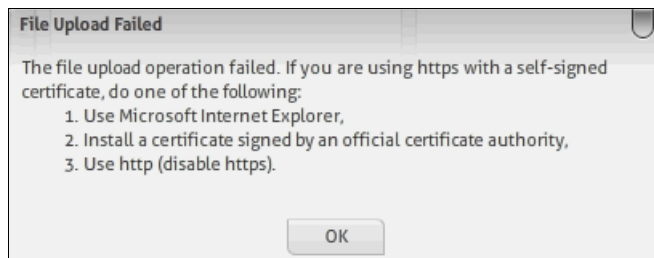

Figure 2-26 WMC message that the upload failed
**Tip:** Some browsers are restrictive in supporting self-signed certificates and might block browser functions, such as file upload, which is required for the installation of module providers (and for uploading projects). The WMC might display an error message, as shown in Figure 2-26.